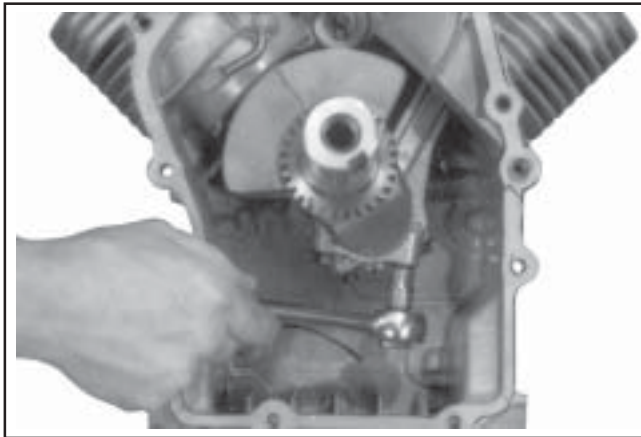

Figure 9-70. Removing Connecting Rod Bolts.
1. Remove the two hex flange screws securing the closest connecting rod end cap. Remove the end cap. See Figure 9-70.